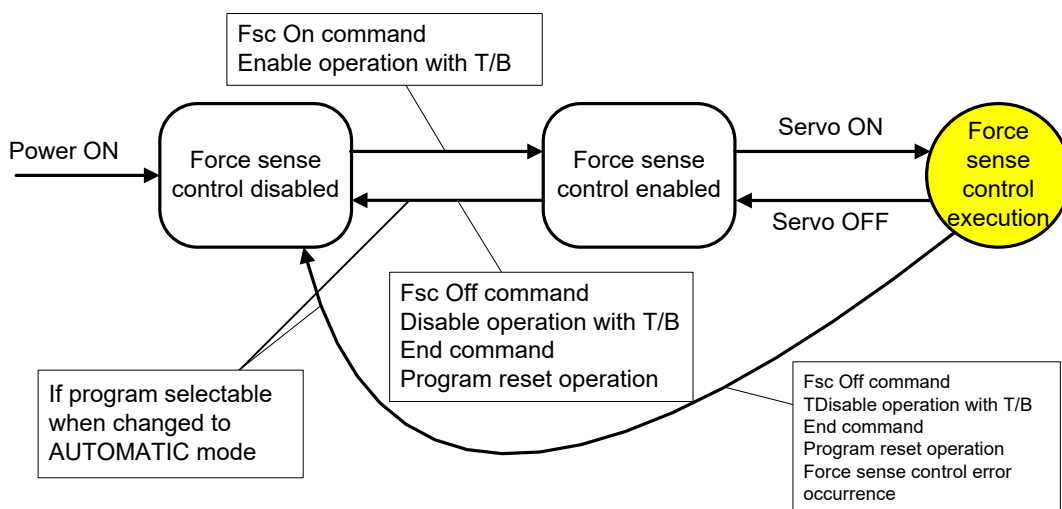

Fig. 11-1: Force sense control function status transition
- (5) "Control mode" and "control characteristics " 1 to 9 use setting values for each corresponding parameter. (Refer to Table 11-2 for details of setting items contained in control mode and control characteristics.)
- (6) If the "control mode" or "control characteristics " is 0 or -1, conditions set with dedicated status variables are used. The default status is the same setting as if "control mode" and "control characteristics " 1 is specified. (Refer to Table 11-2 for details of setting items contained in control mode and control characteristics.)
- (7) If the offset cancel designation is 1, force sensor data becomes 0 for all axes when this command is executed, and the sensor offset component is offset (zero point offset). No offset is made if the offset cancel designation is 0.
- (8) If the offset cancel designation is 1 and a value is set in the following data specified in the <control mode> (force sense calibration executed), the offset component cancel data is updated in sequential consideration of the load while the force sense control is turned on.
- (9) If the offset cancel designation is 1, execute this command after the robot stops completely. If the command is executed immediately after the movement, the zero point offset may not be performed properly due to an inertial force.
- (10) The force sense control enabled/disabled status and "control mode"/"control characteristics" settings are common to both AUTOMATIC and MANUAL modes.
- (11) Even if an interpolation continuous command is specified with the Cnt command, the command is executed after waiting for the robot movement to be completed.
- (12) Force sense control is disabled by performing a program reset or executing an End command. (See Fig. 11-1.)
- (13) Force sense control processing functions only when the servo is ON. Even if force sense control is enabled, force sense control processing is not performed while the servo is OFF. If the servo is turned OFF while performing force sense control processing, processing is stopped. Force sense control processing is then resumed by turning the servo ON again. (See Fig. 11-1.)